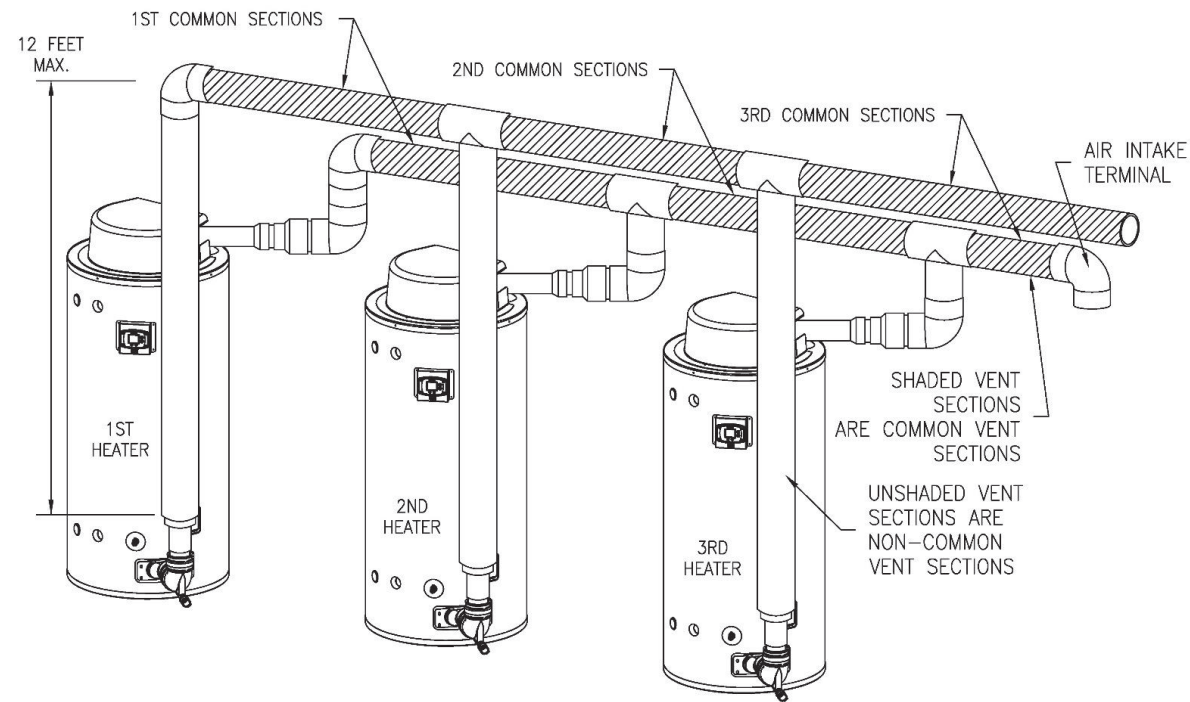
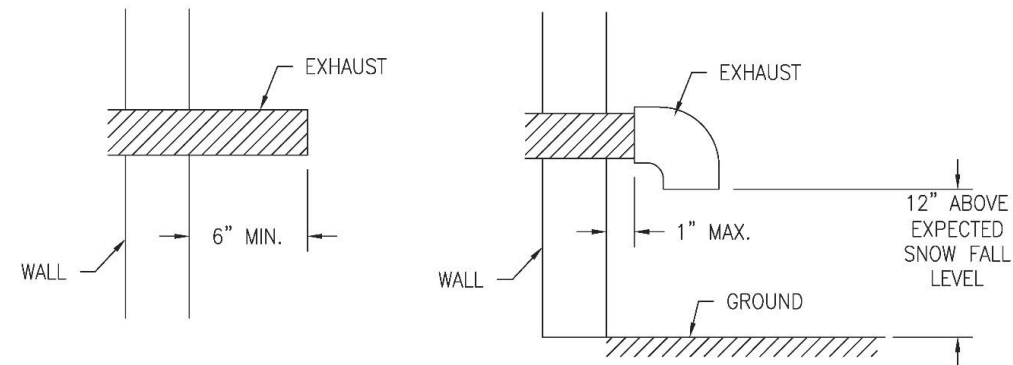

FIGURE 1. DEFINITION OF COMMON vs. NON-COMMON VENT SECTIONS – PVC/CPVC AND POLYPROPYLENE.
FIGURE 3. Recommended Horizontal Direct Vent System Wall-Vent Separation (Intake and Exhaust Terminals may be on different outside walls.)
There are a total of 6 shaded sections shown in Figure 1, known as common vent sections. Each individual common vent section has the following equivalent vent length requirements:
- a maximum of **2 tees** can be used when constructing the common vent system with **2 water heaters**. (All tees permitted in the construction of a 3-water heater common vent system are shown in Figure 1.)
- When adding up each common vent section equivalent length count each 90° elbow as 5 feet and each 45° elbow as 2 ½ feet if any elbows are used. **None are used in the configuration shown in Figure 1.**
- The air intake terminal, labeled in Figure 1, is not counted when adding up the length of the 3rd common section on the intake side of the system, see Figure 1.
When direct venting through a wall, the separation between exhaust vent outlet and wall is recommended to be a minimum of 6" (see Figure 3). The separation between the air intake terminal (see Figures 1 and 3) and wall is recommended to be a maximum of 1". It is also recommended that the air intake terminal outlet be 12" above expected snow fall levels in the place of installation, see Figure 3.